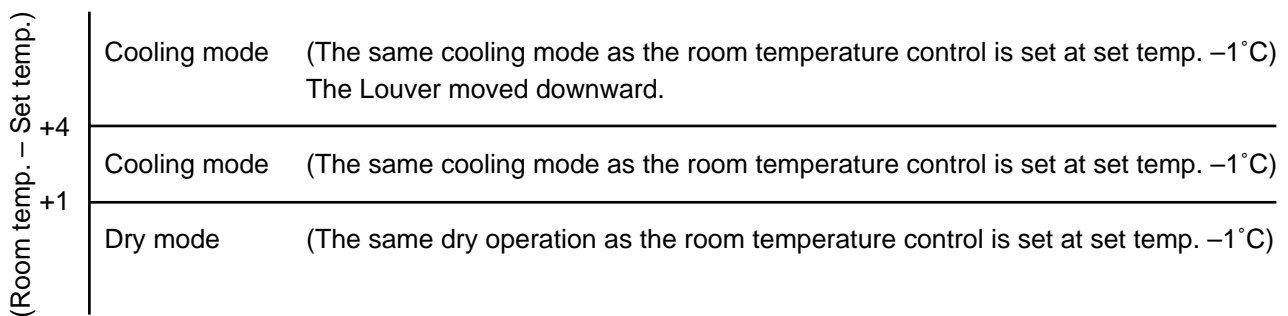

Fig. 7-4-1
- (1) One of the 2 modes, Cooling or Dry is selected according to room temperature at which operation is to start, as shown in Fig. 7-4-1. The Fan mode will continue until room temperature reaches a level at which another mode is selected.
When the TEMPORARY button is pushed, the set temperature is fixed at 24°C and controlled in accordance with the chart shown in Fig. 7-4-1.